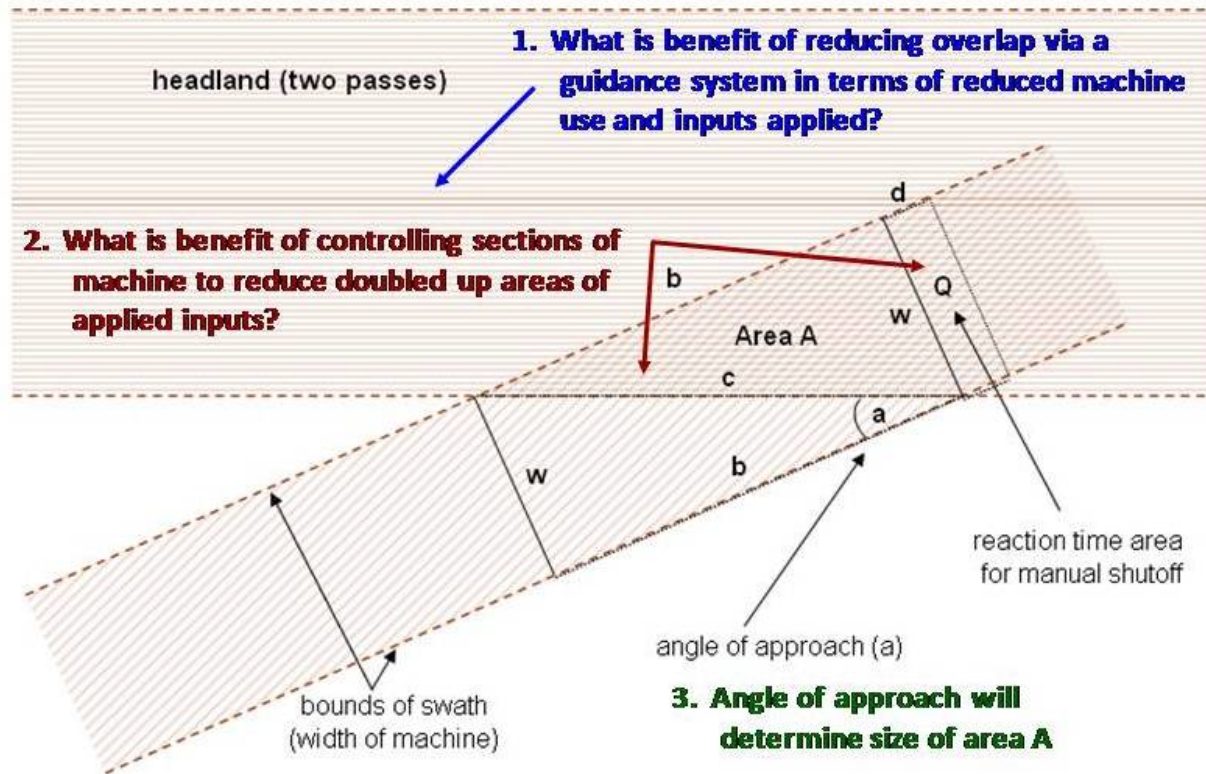

Figure 1 Diagram of overlap and doubling-up of inputs
Before entering data into the calculator, it is necessary to understand the real tangible effects of having GPS guidance and section control technologies. Using Figure 1, first consider an operator who is running a sprayer and opens the field by making two passes around the perimeter of the field. Without autoguidance technologies, there will be some amount of overlap between the two passes as shown in Figure 1. This results in a reduction of machine operation efficiency as well as doubles up inputs on the overlapped portion of ground. Thus, the economic effects of overlap are two-fold: a waste of costly inputs and a loss of machine efficiency. Additionally, there could be lost crop yield due to overlap of chemicals. Autoguidance has the potential to reduce this amount of overlap in the headlands as well as in the pass-to-pass trips throughout the rest of the field.
Now consider the sprayer as it approaches the headlands at some angle less than 90 degrees, as in Figure 1 (which will be the case in a non-square field). Without section control capabilities, the operator will not turn off the applicator until the very last nozzle on the far right of the boom reaches the headlands. This results in a doubling-up of inputs across area A. Further, assuming the operator does not have perfect reaction time, there also will be doubling up on area Q. Section and boom controls have the potential to eliminate some if not all of this doubling-up of inputs. As one can see from the diagram, the angle of approach plays a key role in determining the amount of doubling-up that can be avoided with precision agricultural technologies. The data you enter into the calculator determine the areas and distances shown in Figure 1, which play a major role in the ensuing economic analyses.
5. **Reaction distance (overlap) on manual shutoff (feet):** In manually shutting off a sprayer or planter, for example, for the headland, this is the distance you travel after you think you've covered all uncovered land just to be sure you leave no windows (area Q in Figure 1). Calculations